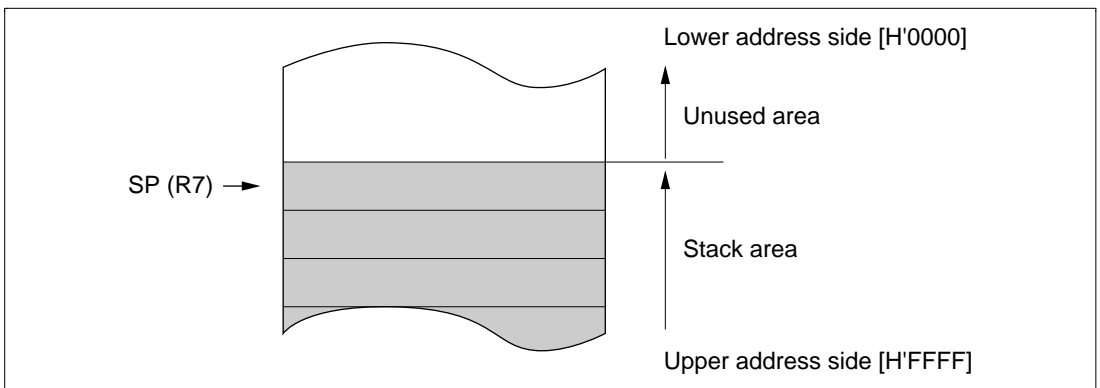

Figure 2-2 Stack Pointer
R7 also functions as the stack pointer (SP), used implicitly by hardware in exception processing and subroutine calls. When functions as the stack pointer, as indicated in figure 2-2, SP (R7) points to the top of the stack.